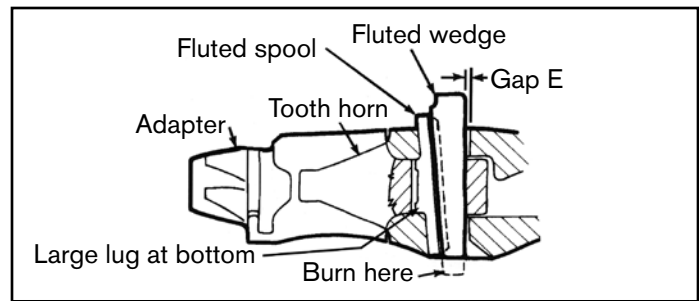

Figure 2
3. Insert the fluted spool into the forward end of the keyslot with the larger lug down and facing forward. See Figure 2.
4. Insert the fluted wedge behind the spool with the large end up. Drive the wedge until it moves no further after repeated solid blows with a hammer. Use 1.8 kg/4 lb. on C19 size, and 3.6 kg/8 lb. on C29 size and larger, see Figure 2.
**▲ CAUTION:** There should be a slight clearance between the rear of the wedge and the keyslot Gap E to ensure proper adapter take-up and system tightness. If not, weld-rebuilding may be needed. See Figure 2.